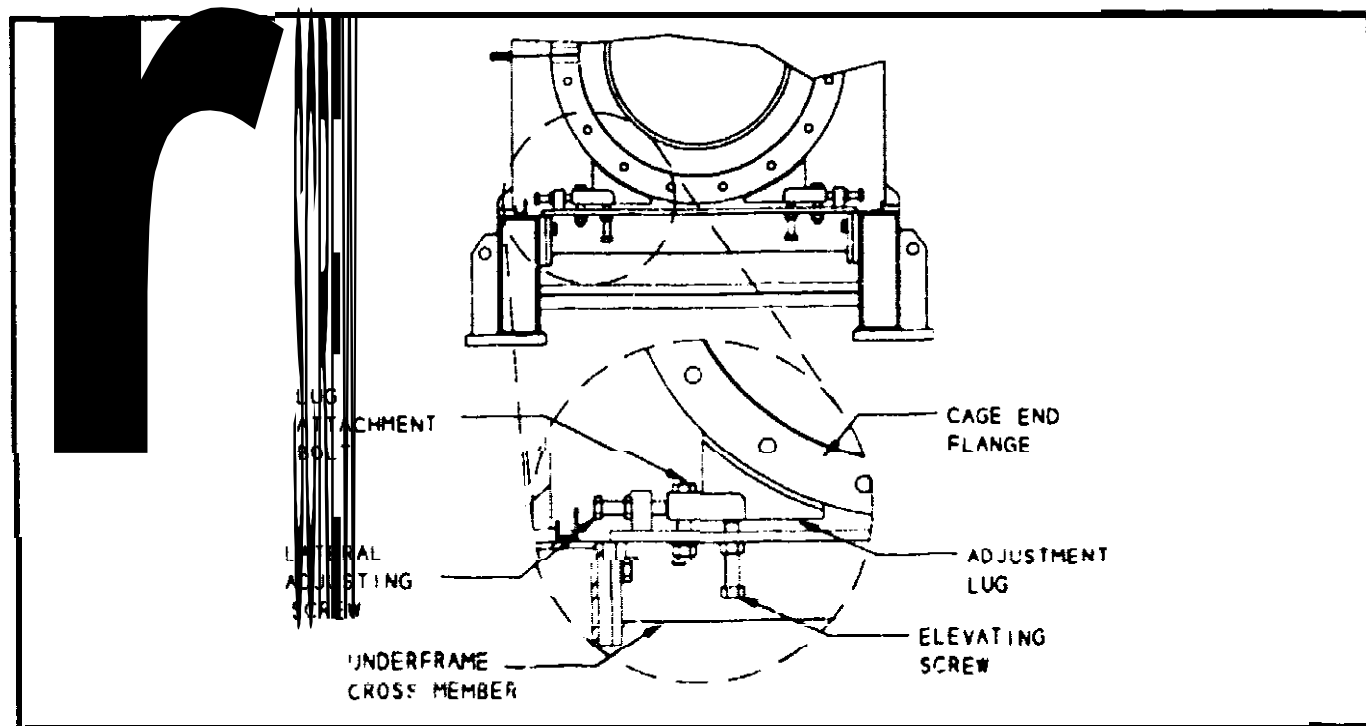

Figure 5.5-2
- a. Loosen the lateral adjusting screw and the elevating screws (See Figure 5.5-2). **Discharge cages have no elevating screws**.